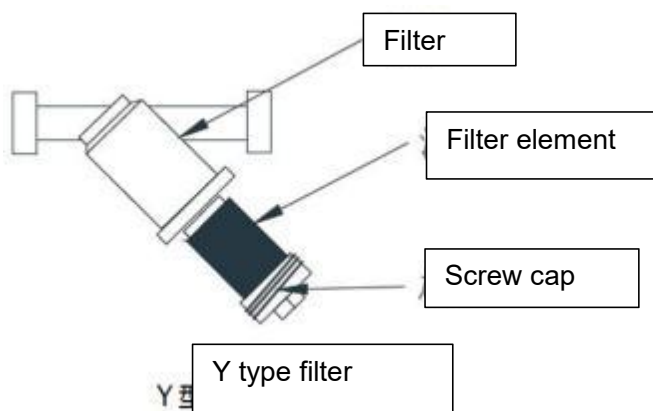

Fig. 13 Filters commonly used in our company
- Regularly clean the filter in the waterway of the equipment, generally **7~10 days** to clean the filter, the company commonly used of filters, as shown in Figure 13, with the Y-filter placed at the suction of the pump or at the outlet of the equipment;